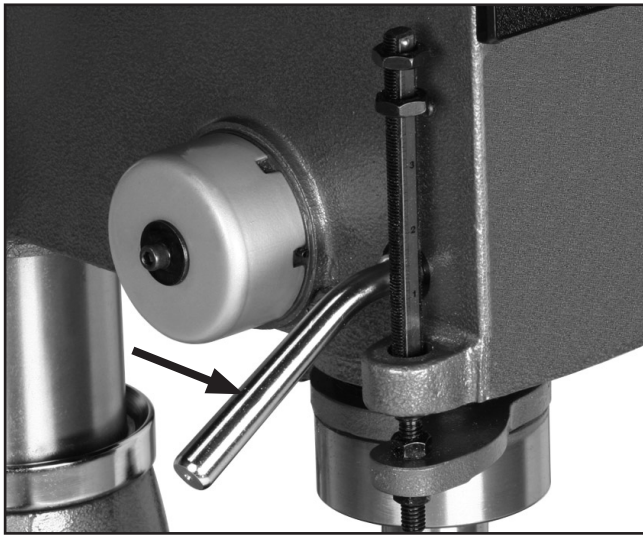

Figure 14. Quill lock handle.
2. Tighten the quill lock handle clockwise to lock the quill in place, as shown in **Figure 14**.